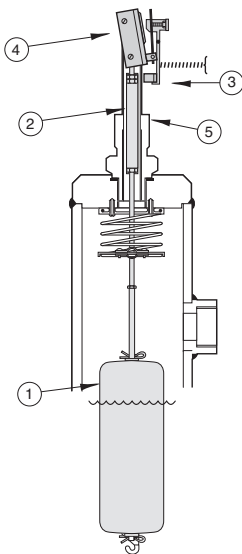

Figure 1
The weight of the displacer ① is supported by the spring. Rising liquid level imparts buoyancy forces on the displacer allowing the spring to compress. The attraction sleeve ② attached to the spring, moves upward into the field of a permanent magnet ③. The movement of the magnet toward the sleeve causes the switch ④ to actuate. A non-magnetic barrier tube ⑤ provides a static pressure boundary between the switch mechanism and the displacer assembly. As the liquid level falls, the displacer lowers, moving the attraction sleeve out of the magnetic field of the switch mechanism. This allows the switch to again change position and to break or make. See Figures 1 and 2.